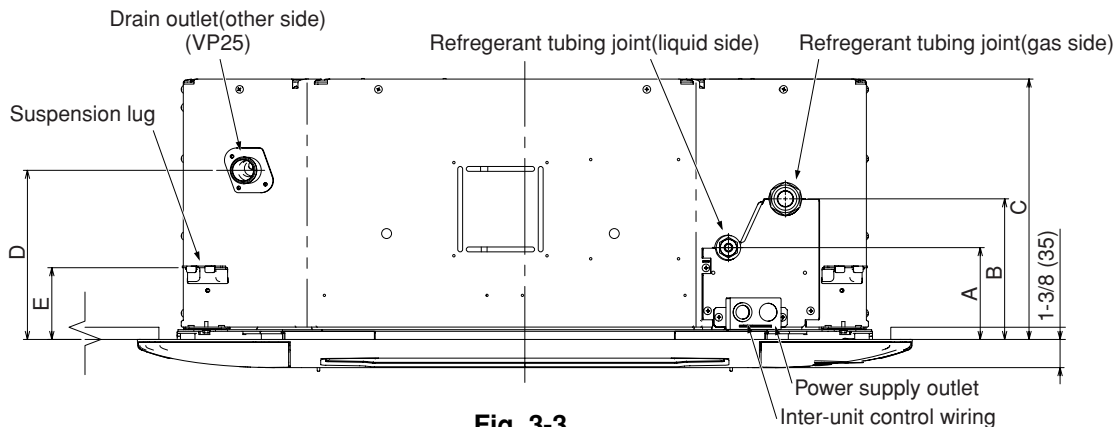

Fig. 3-3
- Determine the pitch of the suspension bolts using the supplied full-scale installation diagram. The diagram and table (Fig. 3-3 and Table 3-2) show the relationship between the positions of the suspension fitting, unit, and panel.